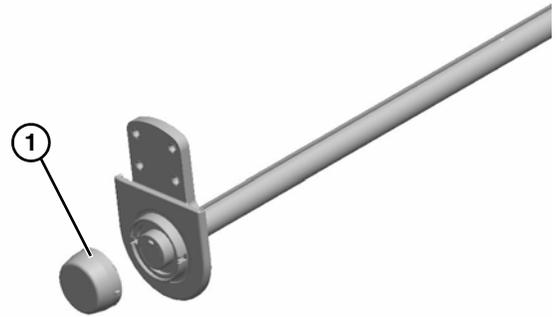

Figure 43
- Remove bearing cover (Figure 43, item 1).